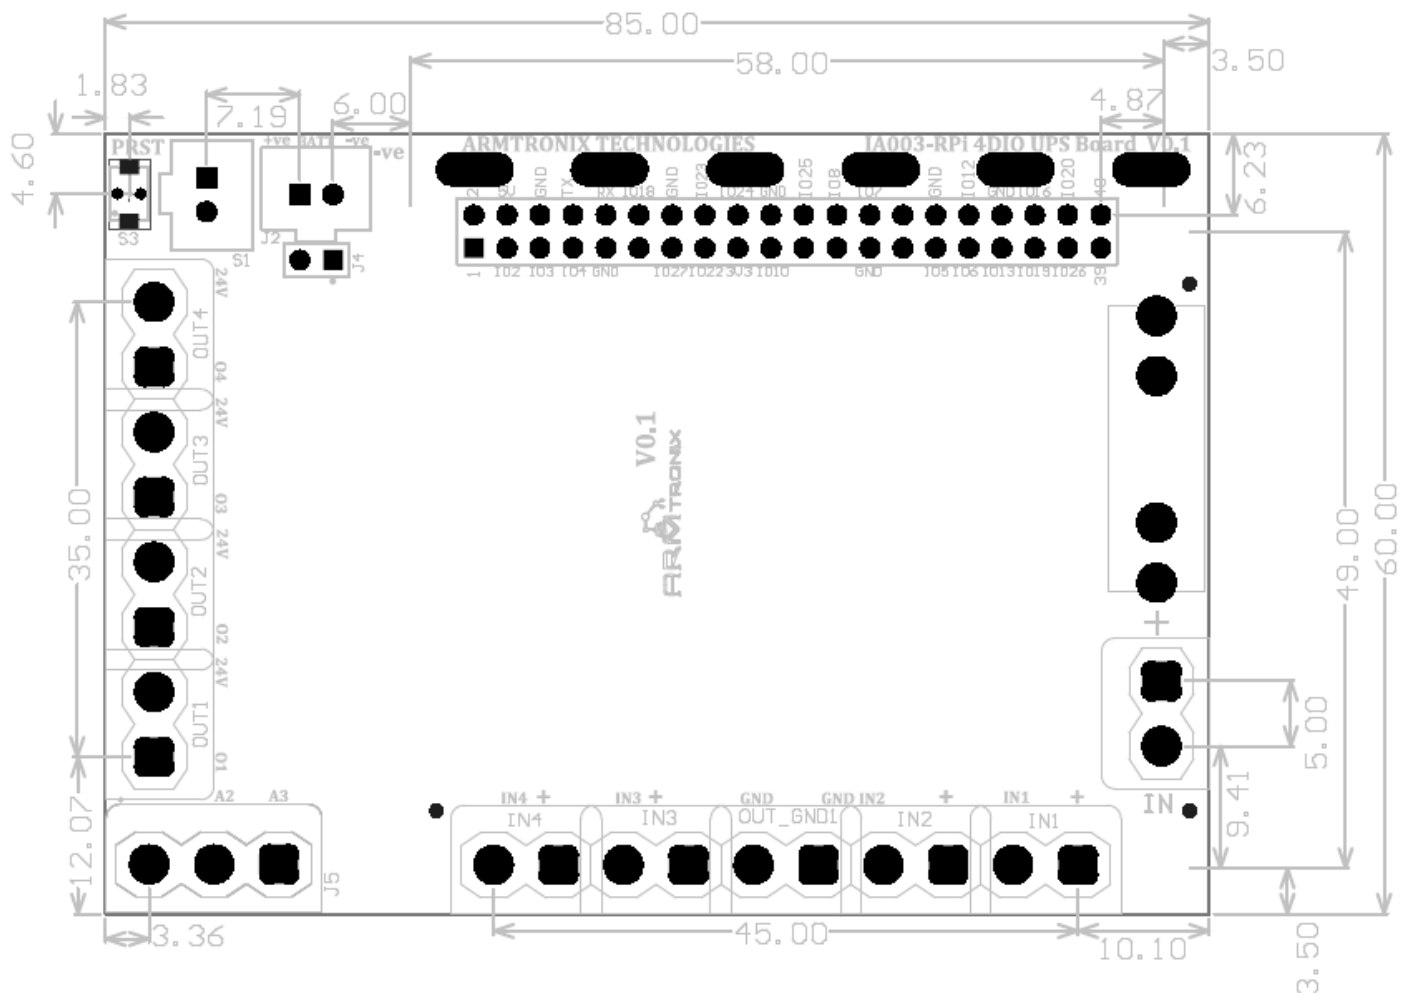

Figure 2: Board Dimensions
- For more details on dimension of the board shown in figure 2.